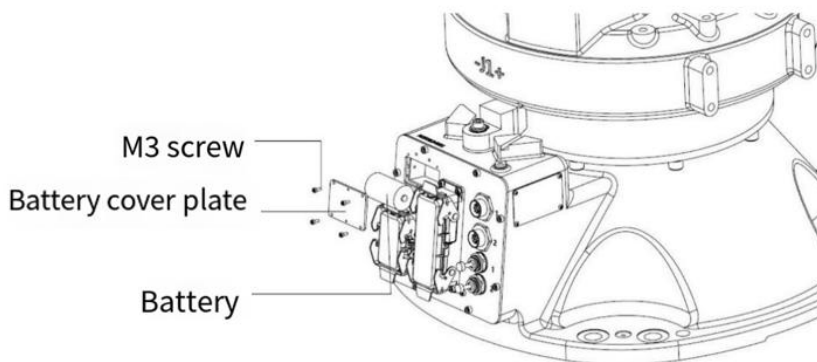

Figure 129: Battery Replacement for RX3-A650-2260/RX3-A680-2260/RX3-A635-2700/RX3-A620-3100
Step3、 Remove the battery cover plate from the electrical installation panel, as shown in Figure 129 or Figure 1210.